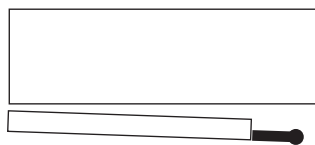
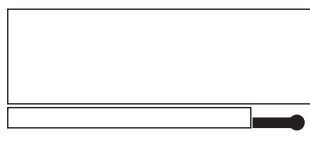
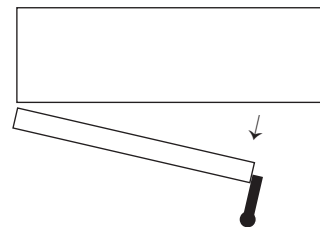

Fig. 3
Fig. 4
Fig. 5
The oven door is equipped with an electrically powered lock. The oven is delivered with the door latched and slightly open (Fig. 3) and can be opened by firmly pulling the door handle (Fig. 5). Push the door until it connects with the latch but remains slightly open (Fig. 3). This is the position the door should be in when the oven is not in use. The door should also be in this position after cooking to allow steam to escape before fully opening the door. Push the handle until it is in line with the oven door. If power has been connected, the door will now lock automatically, sealing the oven chamber (Fig. 4).
To release the door, rotate (pull) the handle 90 degrees. The door automatically releases to the 'latched and slightly opened' position. Allow a few seconds for steam to escape before pulling the door open (Fig. 5).
**NOTE:** On Programmable Controls if the ON button is pushed after the oven is turned on, the door will be latched but slightly open (Fig. 3) for three seconds; the handle can be released by rotating 90 degrees as shown in Fig. 5. If the handle is not released within the three second interval, the door will automatically re-close. A separate Door Open button will perform the same function with Manual Standard or Deluxe Controls.